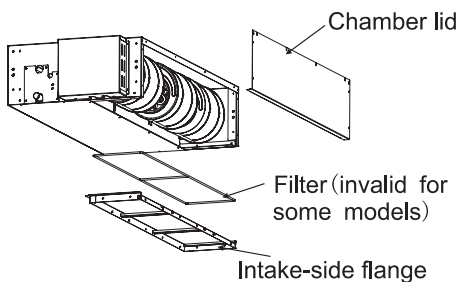

Fig. 3.1.3
- (2) Reattach the removed chamber lid in the orientation shown in Fig. 3.1.3, reattach the removed intake-side flange in the orientation as shown in Fig. 3.1.3.